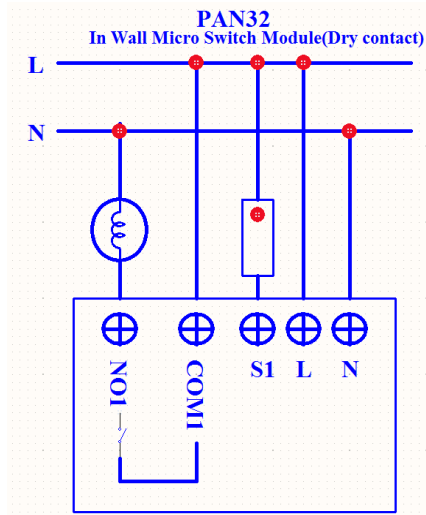

Fig 1.Assembling and wiring
2. Connect the wall switch to the PAN32 as Fig1.